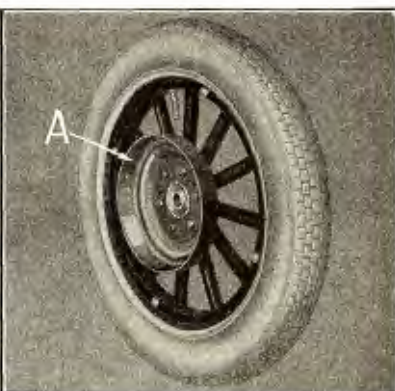

Fig. 556
- 1221** To provide ample braking surface for the new shoe, the hub brake drum has been increased from 8" in diameter to 11" in diameter, the width of the drum being increased from $1\frac{13}{16}$ " to $1\frac{27}{32}$ " (see "A" Fig. 556).